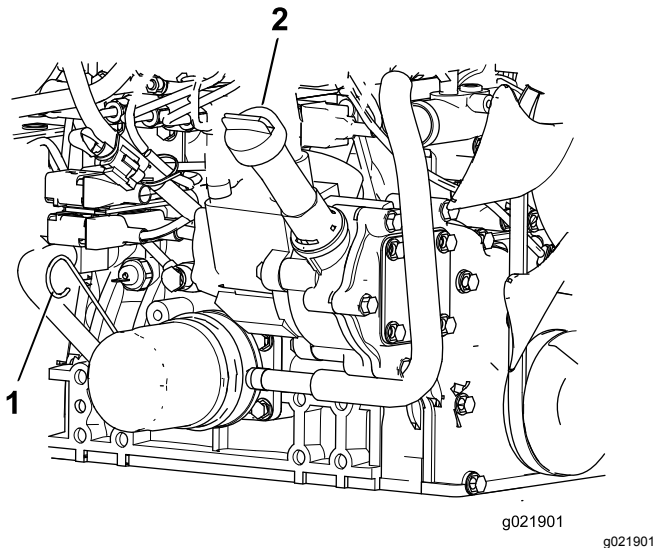

Figure 71
3. Remove the dipstick, wipe it clean, install the dipstick into the tube, and pull it out again. The oil level should be between the full and add marks (Figure 71).
4. If the oil level is low, remove the fill cap (Figure 71) and add oil until it is between the full and add marks. Do not overfill.